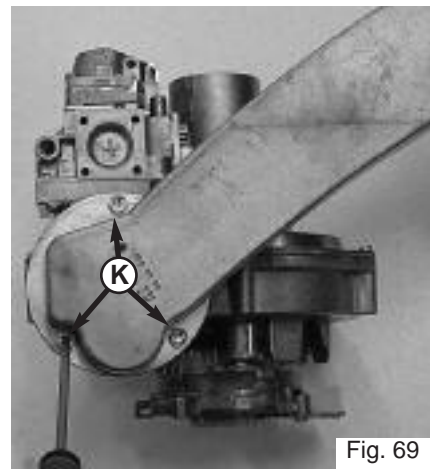

Fig. 69
4. Unscrew the three screws K on the air/gas pipe and remove (Fig. 69);